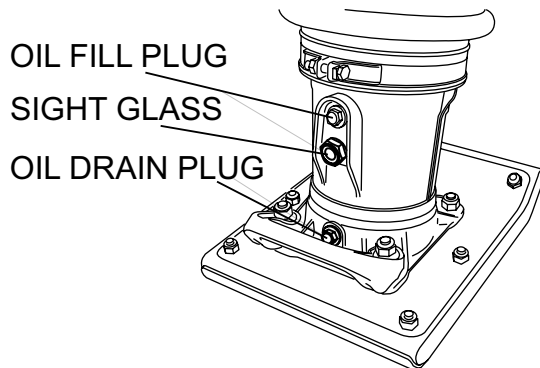

Figure 6. Foot Housing Sight Glass
1. Check the oil level through the oil level sight glass (Figure 6) at the rear of the tamper foot.
2. If oil is not visible, add 10W-30 SE, SF or higher grade motor oil into the oil fill plug opening (Figure 6). The bath contains approximately 0.8 qt. (0.75 liter).